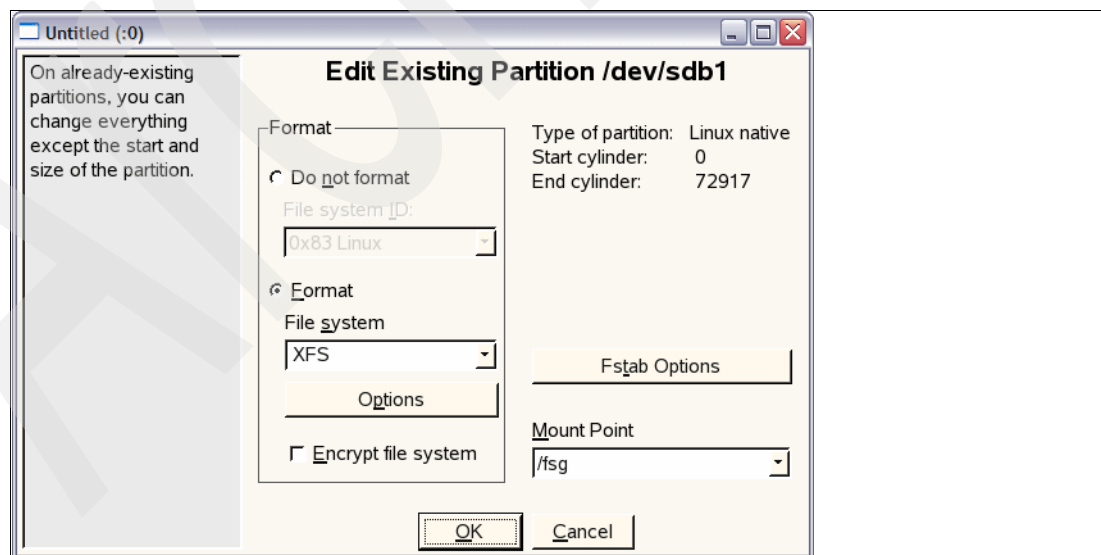

Figure 12-22 Format the /fsg Cache Partition
20. Select the **/dev/sdb1 (/fsg)** partition and click **Edit**. This opens the Edit Existing Partition window, as shown in Figure 12-22.
23. Click **Fstab Options** (see Figure 12-22 on page 517) and select the button **Mount by device name**. Enter `dmapi,mtp=/fsg` into the Arbitrary options field and click **OK**, as shown in Figure 12-24.